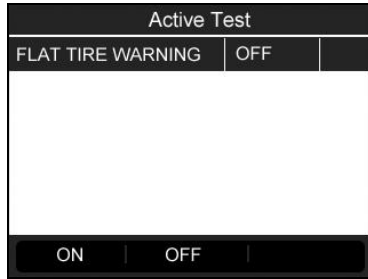

Figure 4.38
- 4) Press the corresponding **FUNCTION BUTTON** ‘**ON**’ or ‘**OFF**’ to check whether the TPMS warning lamp on the vehicle is turning on or off. (Figure 4.38)